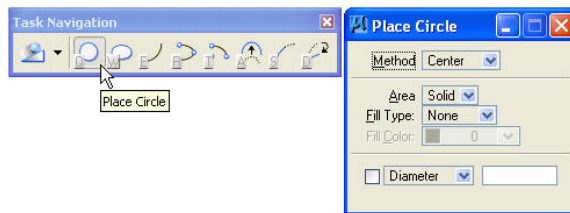

Figure P2–9 Invoking the Place Circle tool
STEP 3: To draw the circular gauges with the arrow pointers located in the top of the instrument panel, first invoke the Place Circle tool from the Task Navigator tool box (active task set to Circles), as shown in Figure P2–9, to draw two circles. Select **Center** from the **Method** option menu in the Tool Settings window, set **Radius** to 0.5 Master Units, and turn ON the check box for **Radius**.